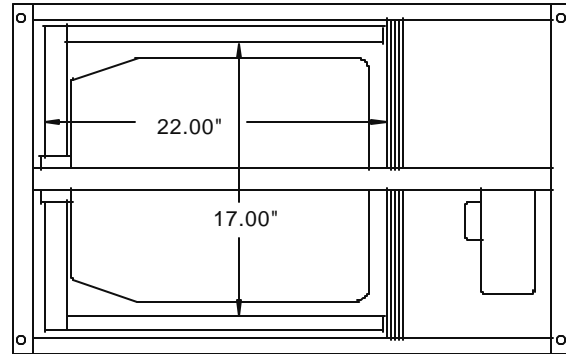

Figure 1.
Beginning installation, check the dimensions of projector or equipment to be mounted, against the available space within the lift. Be sure to include the lens or any accessory which may add to the overall dimensions of the equipment. Maximum projector dimensions that the Lift will accommodate are **17" Width (43.18 cm) X 22" Depth (55.88 cm) X 8.75" Height (22.22 cm)** -see figure 1.
- b. Platform mounting:** It is achieved by resecuring the bottom closure panel to the inner framework extending down from ceiling. Projector can be set directly on the inside of panel, within the frame and flat bar supports. Adhesive backed hook and loop fasteners can be placed between the feet of projector and panel to maintain positioning. The orientation of projector to Lift is consistent with hanging mount -see figure 1.